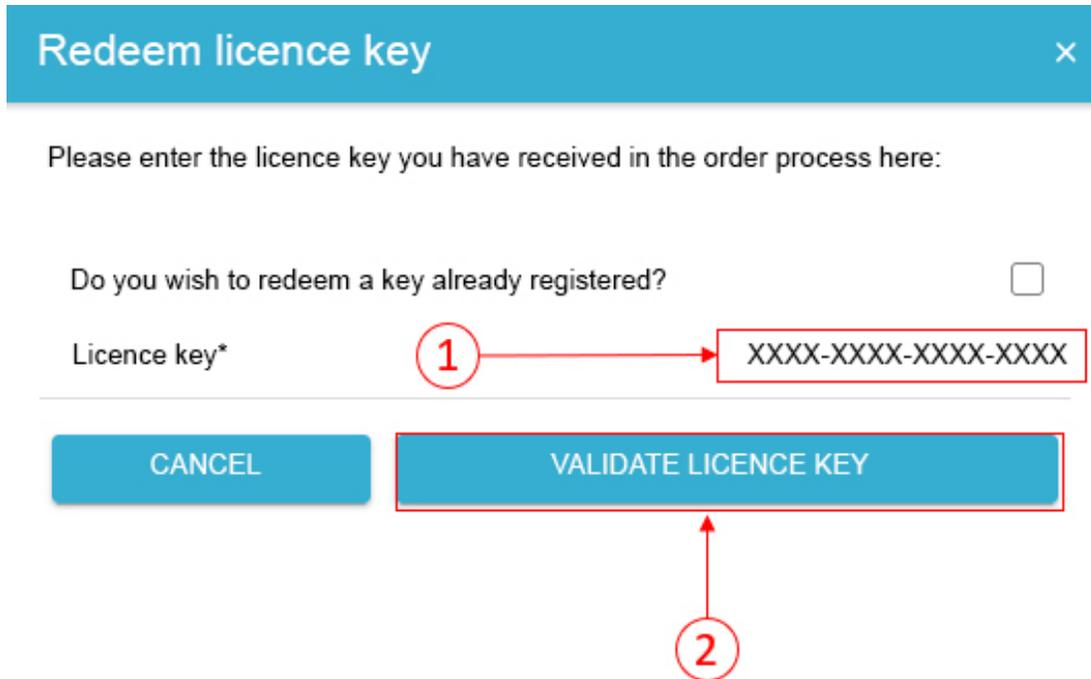

Figure 23. App installation — Variant 2: Step 5b
- Figure 23. App installation — Variant 2: Step 5b